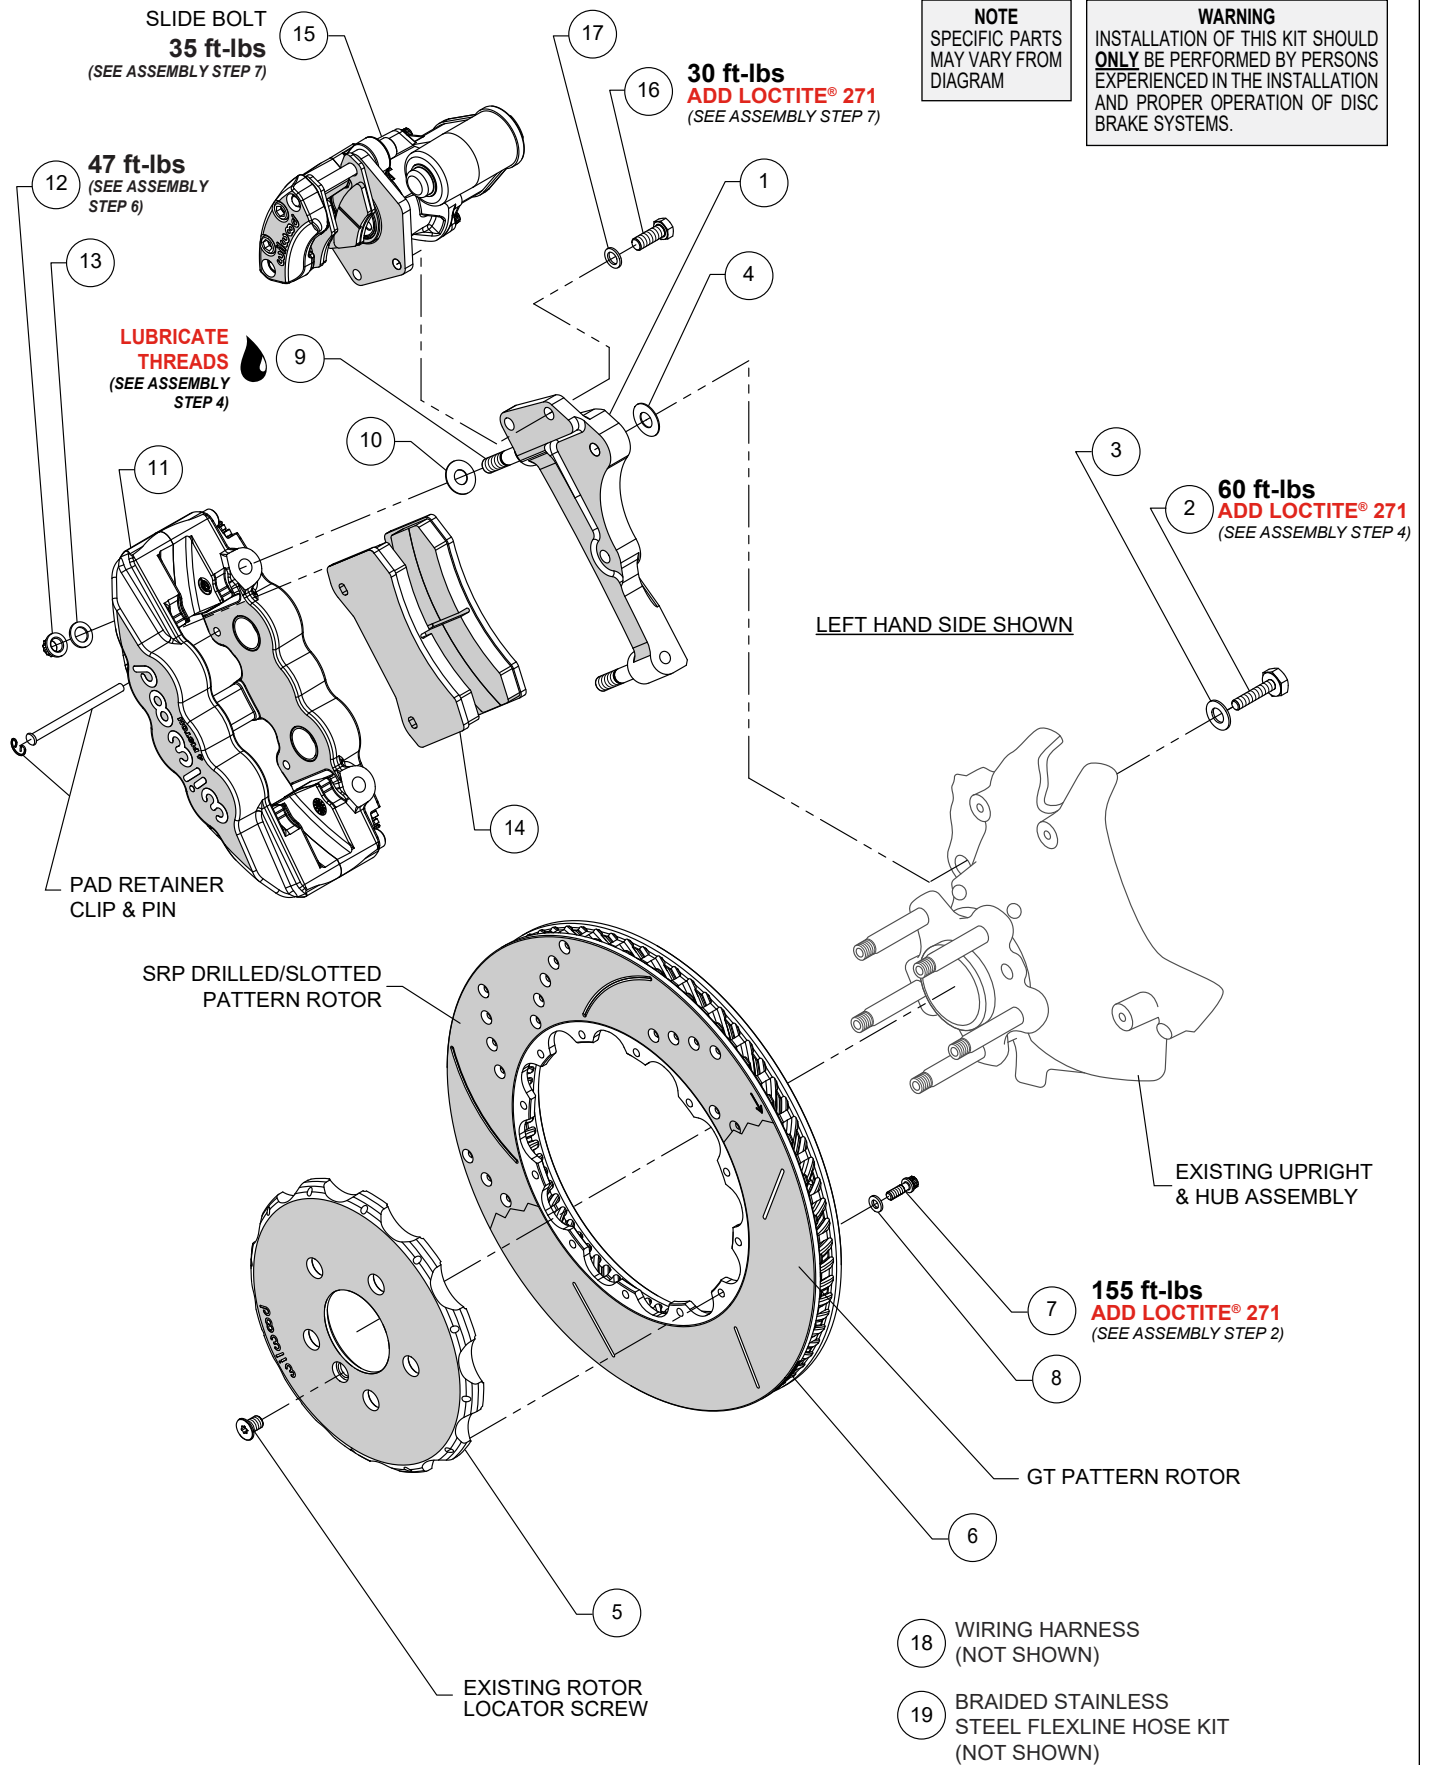
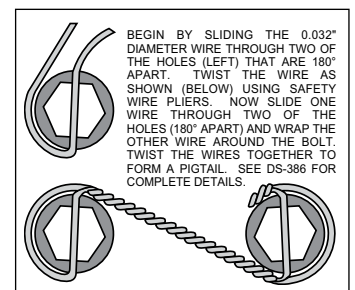

Figure 1A Typical Installation Configuration
Figure 2. Safety Wire Diagram
**NOTE:** Numbers in parenthesis refer to the parts list and Figure 1A/B on the preceding pages.
**STEP 1** The caliper mount bracket (1) should initially be installed with clean, dry threads on the mounting bolts. Orient the bracket, as shown in Figure 1A/B and Photo 1, and install using bolts (2) and washers (3). Initially place one .033" thick shim (4) on each bolt between the bracket and upright, Figure 1A/B. Temporarily tighten the mounting bolts. **NOTE:** The bracket must fit squarely against the mount bosses on the upright. Inspect for interference from casting irregularities, machining ridges, burrs, etc. Later, after the caliper alignment has been checked, the mount bolts will be secured using red *Loctite*® 271.
**STEP 2 For 140-18481:** Orient the hat (5) and the rotor (6) as shown in Figure 1A and Photo 2. Attach rotor to hat using bolts (7) and washers (8). Apply red *Loctite*® 271 to the bolt threads and torque to value shown in Figure 1A using a criss-cross pattern. For an added measure of security, the bolts may be safety wired using standard 0.032 inch diameter stainless steel safety wire as shown in Figure 2. Refer to Wilwood's data sheet DS-386 (available at [www.wilwood.com/pdf/DataSheets/ds386.pdf](http://www.wilwood.com/pdf/DataSheets/ds386.pdf)) for complete safety wire installation instructions.
**STEP 3** Slide the hat/rotor assembly onto the axle hub, Photo 3. **NOTE:** The hat must fit flush against the axle hub flange or excessive rotor run out may result. Install the hat locator screw (OEM), as shown in Figure 1A/B, to keep the hat/rotor assembly in place while continuing with the installation.
**STEP 4 NOTE:** This kit contains distinct right and left hand calipers that must be mounted in a specific direction, as described below. Lubricate the caliper mounting studs (9) with lightweight oil. Initially place one .030" thick shim (10) on each stud between the caliper and the bracket, as shown in Figure 1A/B and Photo 4. Mount the caliper (11) onto the bracket (1) using lock nuts (12) and washers (13), Figure 1A/B. Temporarily tighten the lock nuts. Ensure that the caliper is mounted so the largest pistons are at the rotor exit end of the caliper, in relation to the forward direction of the rotor. View the rotor through the top opening of the caliper. The rotor should be centered in the caliper, Photo 5. If not, adjust by adding or subtracting shims (4) between the bracket and the upright. Always use the same amount of shims on each of the two mounting bolts. Once the caliper alignment is correct, remove the bracket mounting bolts (2) one at a time, apply red *Loctite*® 271 to the threads, and torque to value shown in Figure 1A/B.
**STEP 5** Remove the caliper (11) from the bracket (1), then remove the clips and pad retaining pins from the caliper. Insert the brake pads (14) into the caliper from the bottom side, with the friction material facing the rotor, as shown in Photo 6. Secure the brake pads in place with the pad retaining pins and clips, Figure 1A/B and Photo 7.
**STEP 6** Reinstall the caliper onto the caliper mounting bracket and temporarily tighten the lock nuts (12). Check that the top of the brake pad is flush with the outside diameter of the rotor, Photo 8. If not, adjust by adding or subtracting shims (10) between the caliper and the bracket. After the caliper pad height is set, torque the caliper lock nuts (12) to value shown in Figure 1A/B. Be sure the pad wear sensor wire is properly routed and secured away from all rotating components.
**STEP 7 NOTE:** This kit contains distinct right and left hand EPB calipers that must be mounted in a specific direction. Remove the EPB caliper mounting bracket from the EPB caliper assembly (15) by removing the two slide bolts, see Figure 1A/B and Photo 9 for details. Orient the EPB caliper mount bracket as shown in Photo 9 and attach to caliper mounting bracket (1) using bolts (16) and washers (17). Apply red *Loctite*® 271 to the threads and torque
bolts to value indicated in Figure 1A/B. Install the EPB caliper to the mounting bracket using slide bolts (15) with dry threads. Torque slide bolts to value indicated in Figure 1A/B.
**STEP 8** Connect OEM electronic parking brake wire harness to Wilwood electronic parking brake using included wiring harness (18), Photo 10. **Ensure wiring is routed to prevent contact with moving suspension, brake or wheel components.**
**STEP 10** Attach supplied brake line to caliper. **NOTE:** OEM rubber brake hoses generally cannot be adapted to Wilwood calipers. Install Wilwood's stainless steel braided flexline hose kit (19), P/N 220-18500 included with this kit. The caliper inlet fitting is a 1/8-27 NPT. Use the included steel adapter fitting at the caliper (use PTFE tape on the pipe threads of adapter fitting for proper sealing to caliper). Add routing flexline, Photo 11. Reuse existing OEM brake line bracket bolt and mounting location to secure Wilwood flexline bracket. Re-attach OEM sensor wires to Wilwood flexline using zipties (not included). **Ensure hoses are routed to prevent contact with moving suspension, brake or wheel components.**